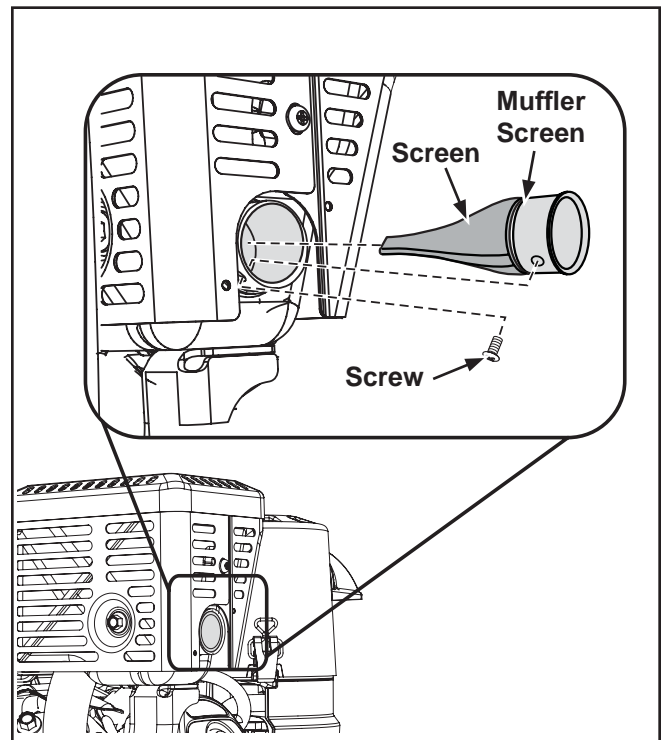

Figure 32. Muffler screen.
1. Remove the securing hardware and the muffler screen. See Figure 32.